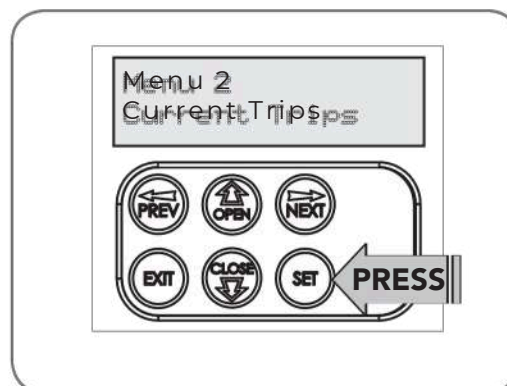

Fig 9.2
- Press **SET** (**Fig. 9.2**).